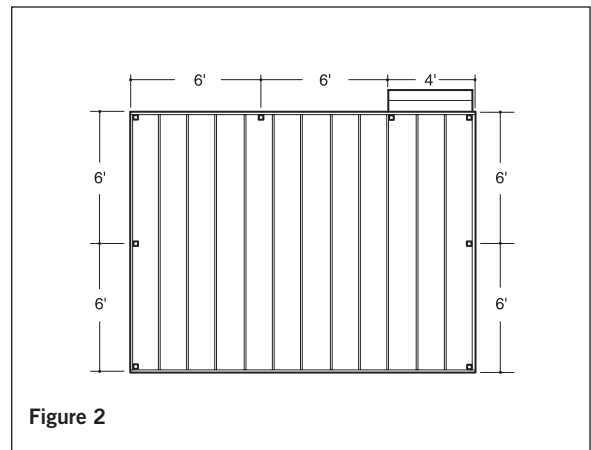

Figure 2
Step 1 Determine the number of railing posts needed for your deck. Post spacing is 6' on-center. Example: A 12x16 deck attached to a building with a 4' access opening on one side will require a total of eight posts (**Figure 2**).